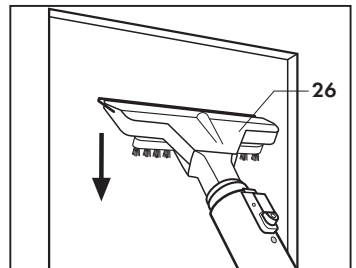

Fig. 14
- Press the rubber blade onto the surface and vacuum any water on the surface by moving the tool vertically from top to bottom (Fig.14).